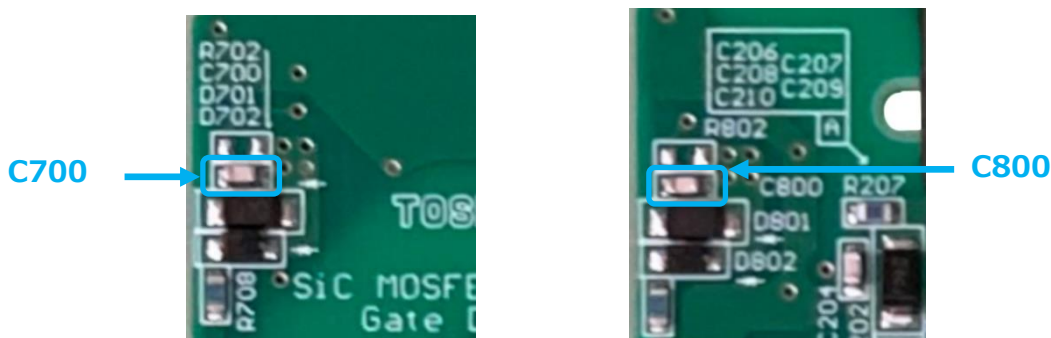

Fig. 4.9 Blanking Capacitor Layout
- Place the PCB of this design on the SiC MOSFET module. Make sure that the seven terminals fit into the through holes in the PCB of this design. (Refer to red circles in Fig. 4.9)
- Tighten the screws by hand. Do not tighten repeatedly. (Refer to blue circles in Fig. 4.9)